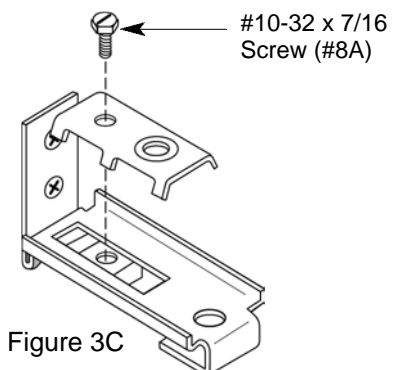

Figure 3C
- F. With the Pivot "L" Bracket (#20) securely installed, locate the Pivot Block Clamp (#8) and the #10-32 x 7/16 Screw (#8A). Remove the top half of the Pivot Block Clamp (#8) and discard the bottom half. Use the #10-32 x 7/16 Screw (#8A), which came with the Pivot Block Clamp (#8), to attach the top half of the Pivot Block Clamp (#8) to the Pivot "L" Bracket (#20) which is mounted to the floor and wall. See Figure 3C.